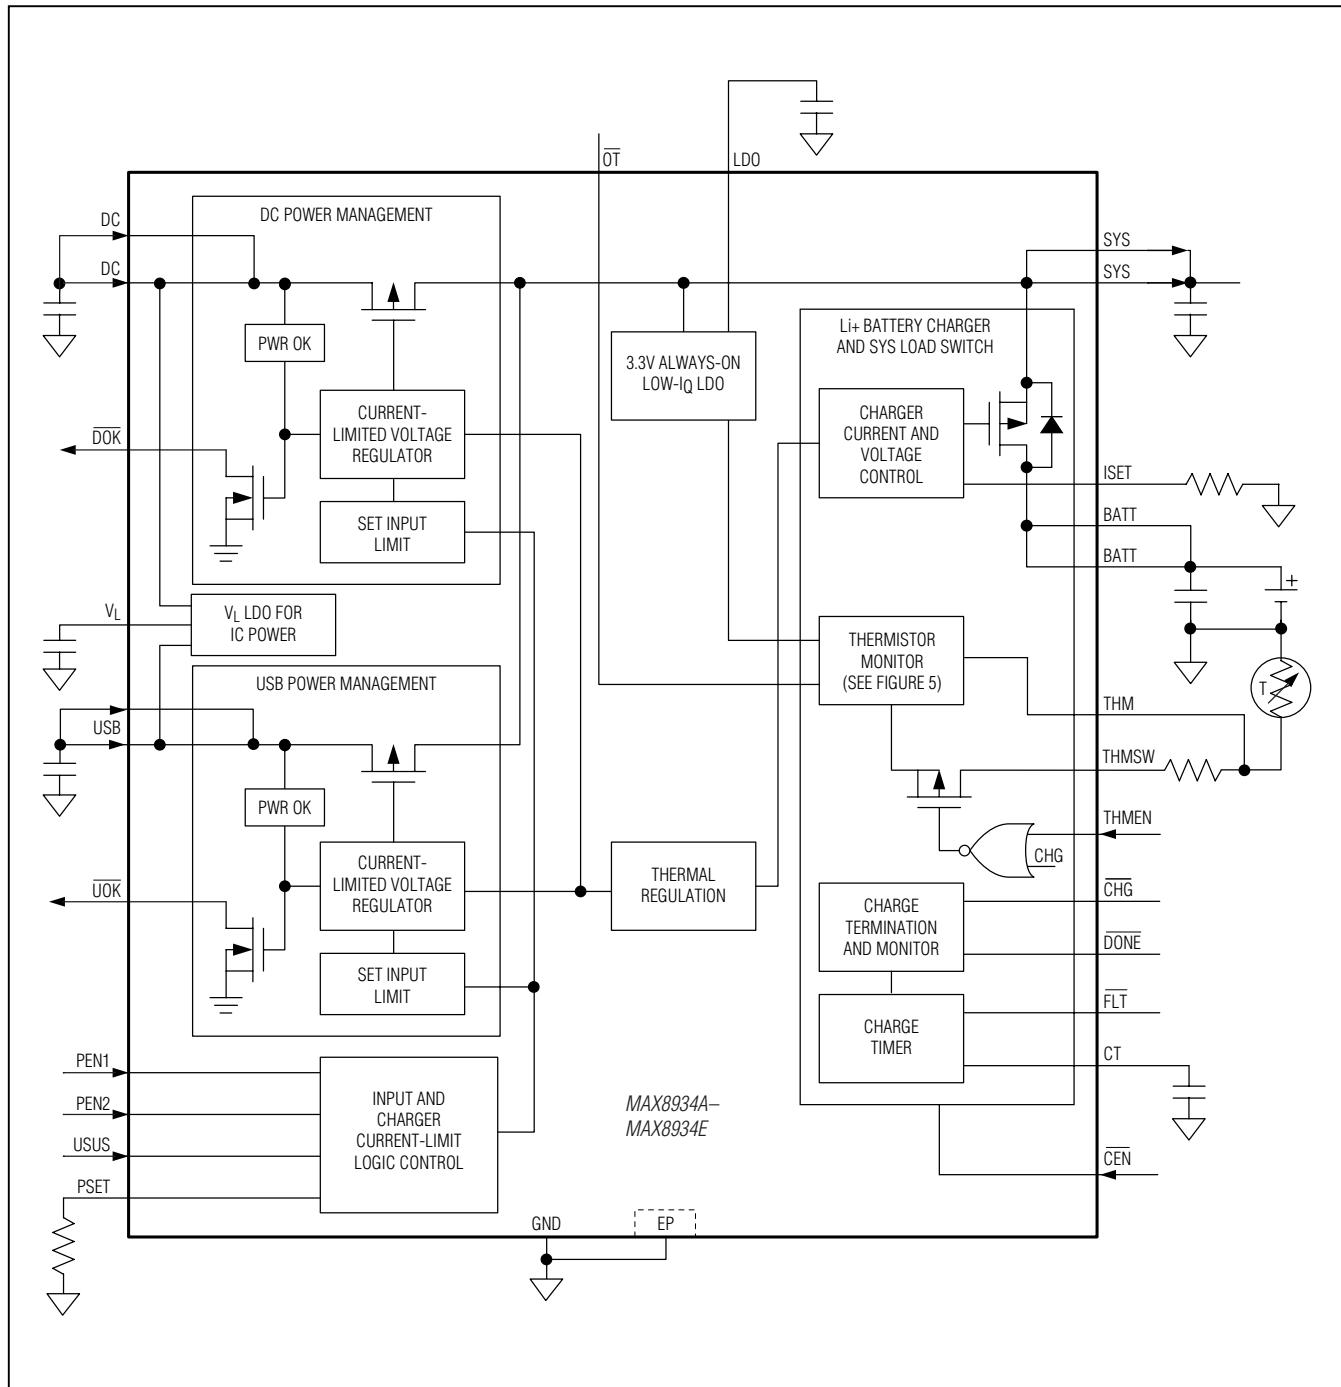
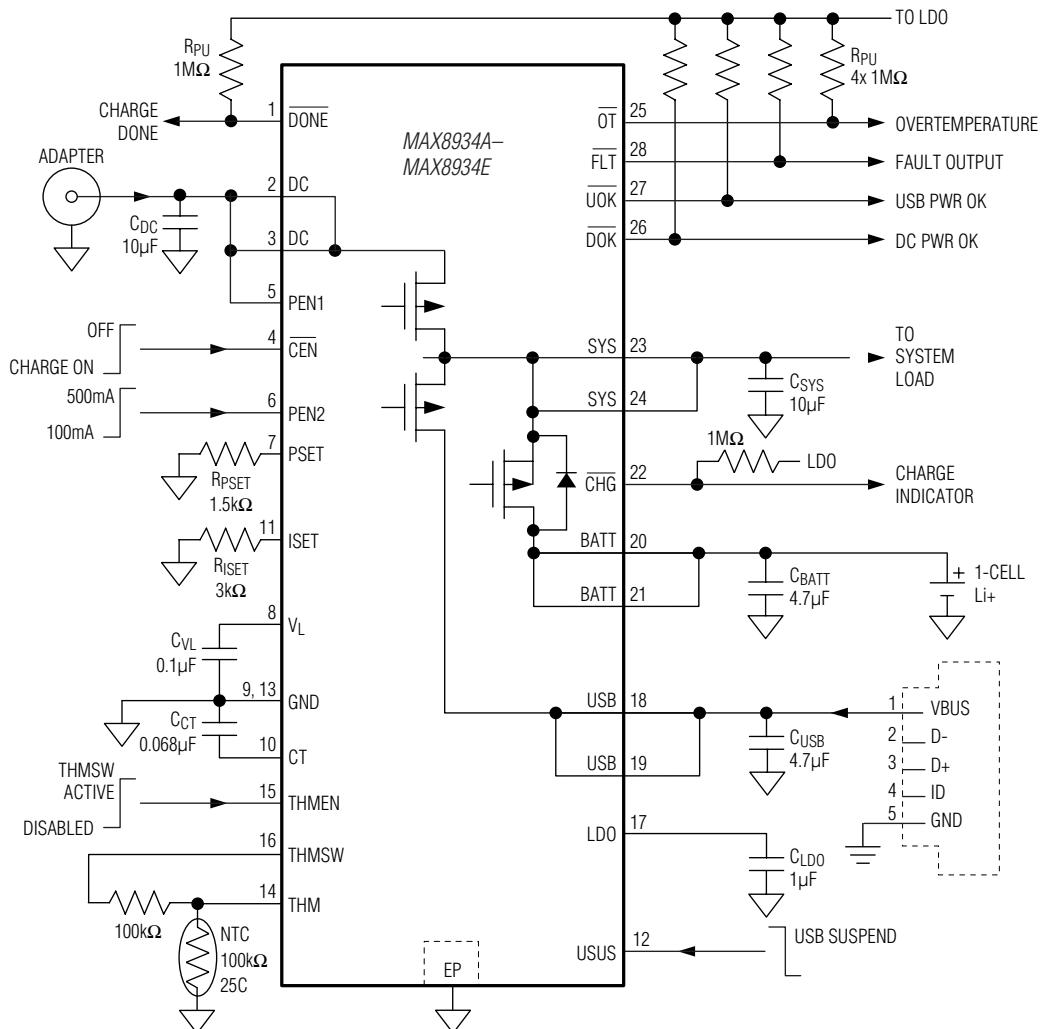
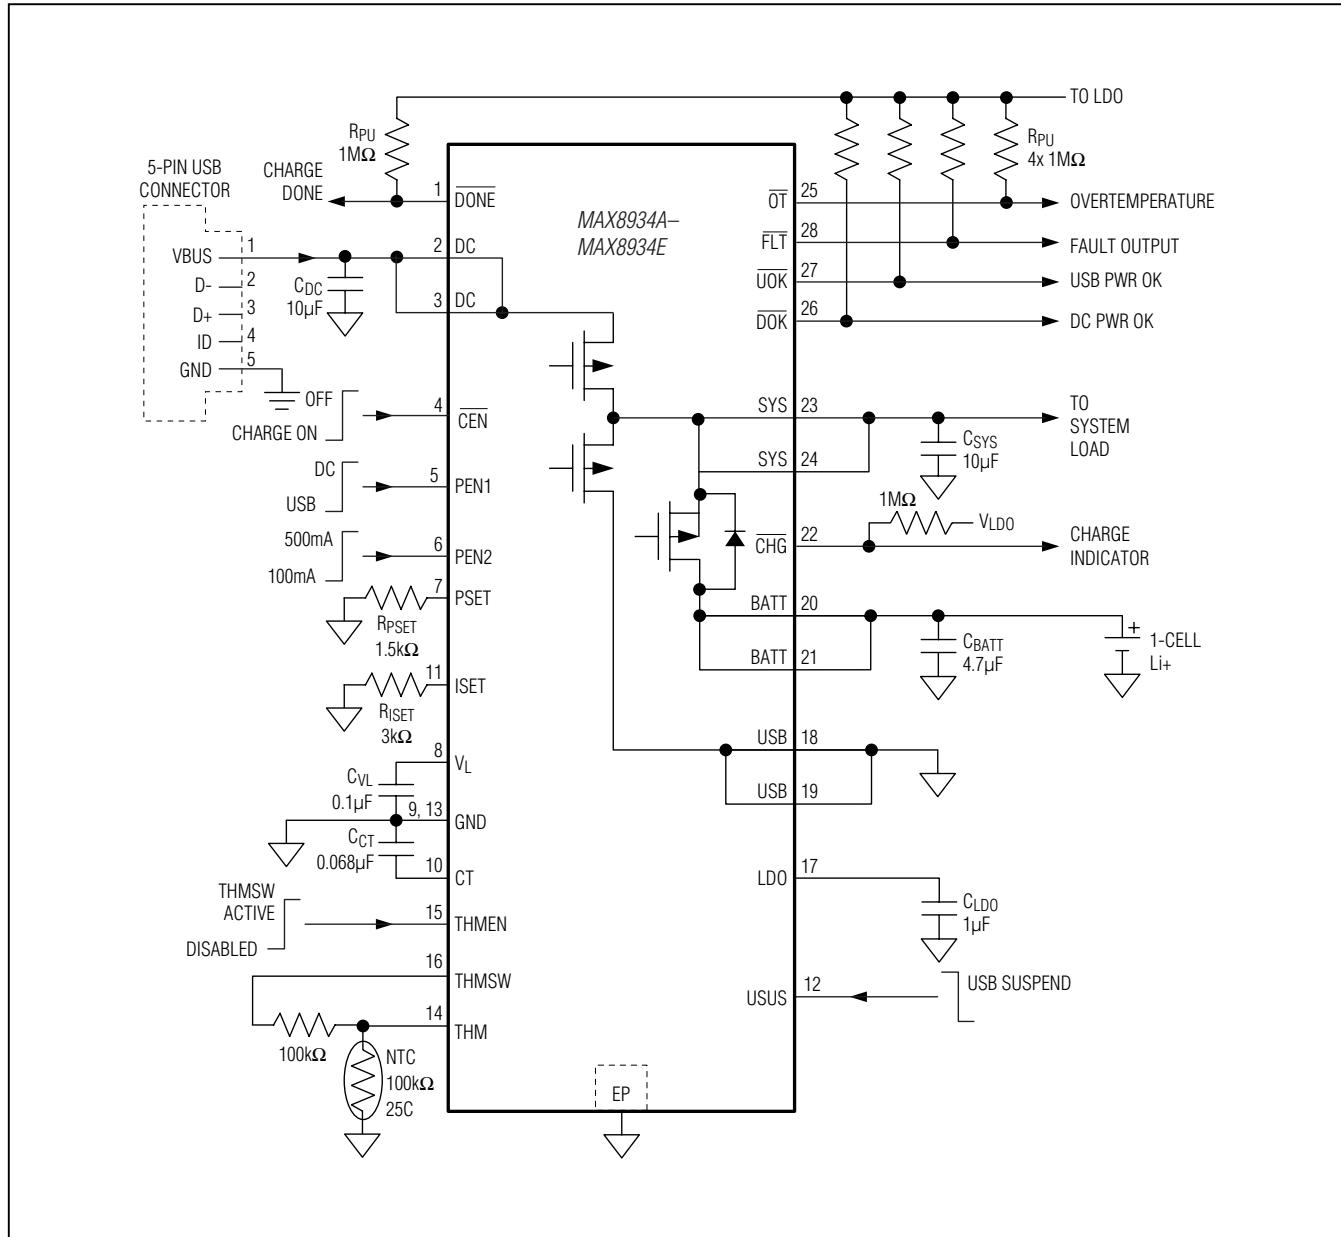

Figure 1. Block Diagram
Figure 2. Typical Application Circuit Using Separate DC and USB Connector
Figure 3. Typical Application Circuit Using a 5-Pin USB Connector or Other DC/USB Common Connector
(MAX8934A,  $T_A = +25^\circ\text{C}$ , circuit of Figure 2,  $V_{\text{DC}} = 6\text{V}$ ,  $V_{\text{BATT}} = 3.6\text{V}$ , thermistor Beta = 3964, unless otherwise noted. Negative battery current indicates charging.)
**Dual-Input Linear Chargers, Smart Power Selector with Advanced Battery Temperature Monitoring****Table 1. External Components List for Figures 2 and 3**
The MAX8934– is a dual-input linear charger with Smart Power Selector that safely charges a single Li+/Li-Poly cell in accordance with JEITA specifications\*. The MAX8934– integrates power MOSFETs and control circuitry to manage power flow in portable devices. See Figure 1. The charger has two power inputs, DC and USB. These can be separately connected to an AC adapter output and a USB port, or the DC input could be a single power input that connects to either an adapter or USB. Logic inputs, PEN1 and PEN2, select the correct current limits for two-input or single-input operation. Figure 2 is the typical application circuit using separate DC and USB connectors. Figure 3 is the typical application circuit using a 5-pin USB connector or another DC/USB common connector.